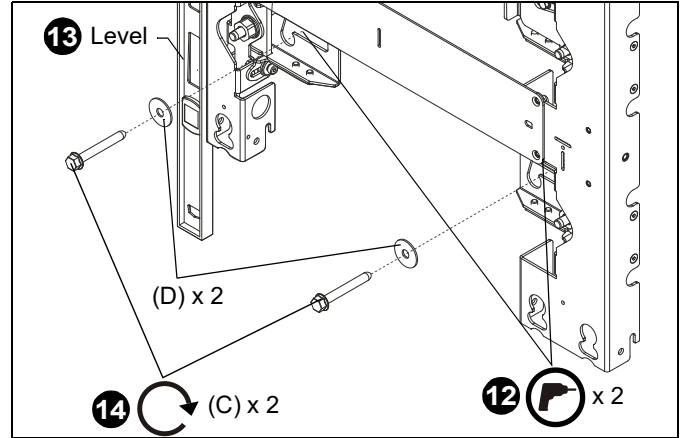

Figure 14
- Drill pilot holes in centerline of lower slots (see Table 1 for size) and follow fastener information (appropriate for wall type) located in Table 1. (See Figure 14)
- Double check the level of the mount along the side of the mount. (See Figure 14)
- Fully tighten the 5/16 x 2-1/2" lag screws (C) through the 5/16" fender washers (D). (See Figure 14)